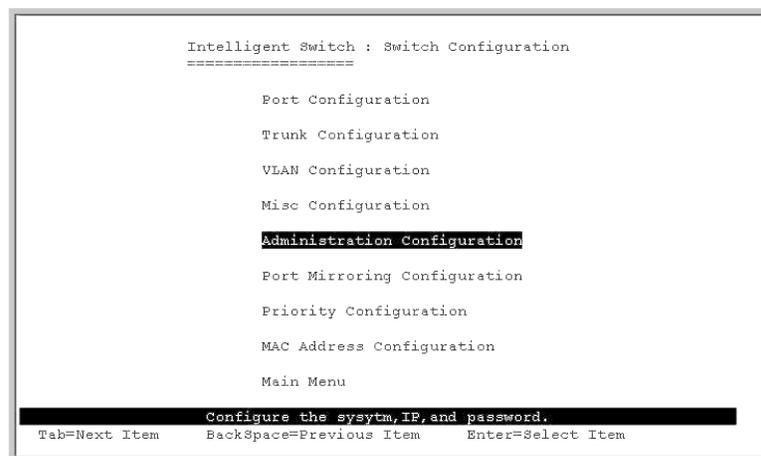

Figure 12. Switch Configuration menu
3. Choose *Administration Configuration* (see figure 12). This takes you to the *Device Configuration* page (see figure 13 on page 34).